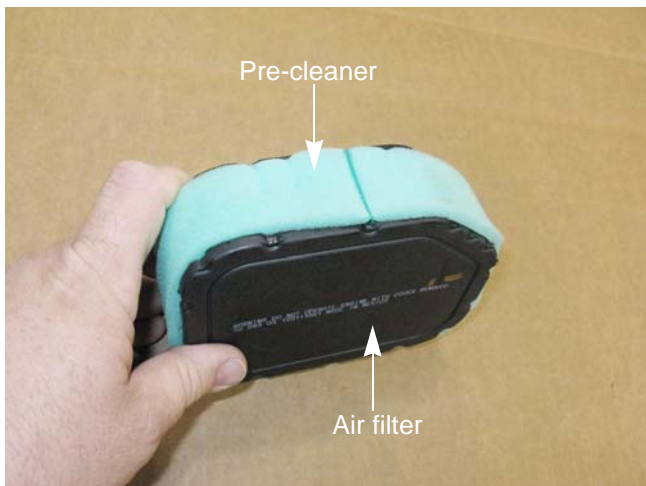

Figure 8.5
4. If a foam air pre-cleaner is dirty, but not in bad of condition, it can be cleaned and reused. The paper pleated filters can be shaken or lightly tapped to free the debris from the filter. See Figure 8.5.